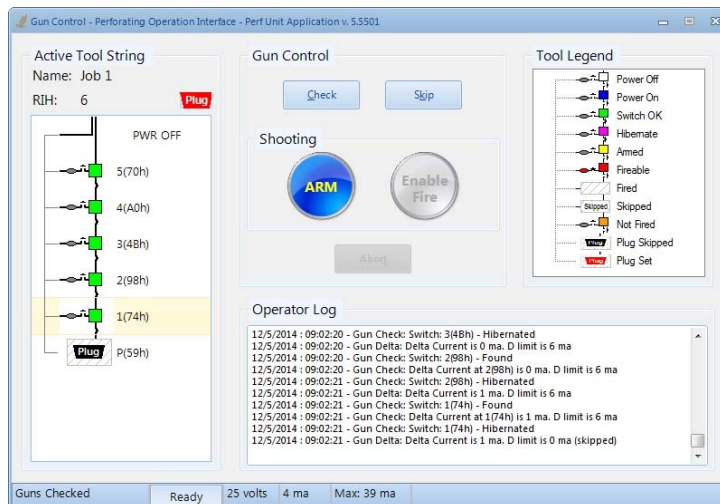

Figure 40
2. A Gun Check will automatically occur resulting in the Plug switch being skipped and Gun 1 switch ready to be armed as seen in Figure 40.